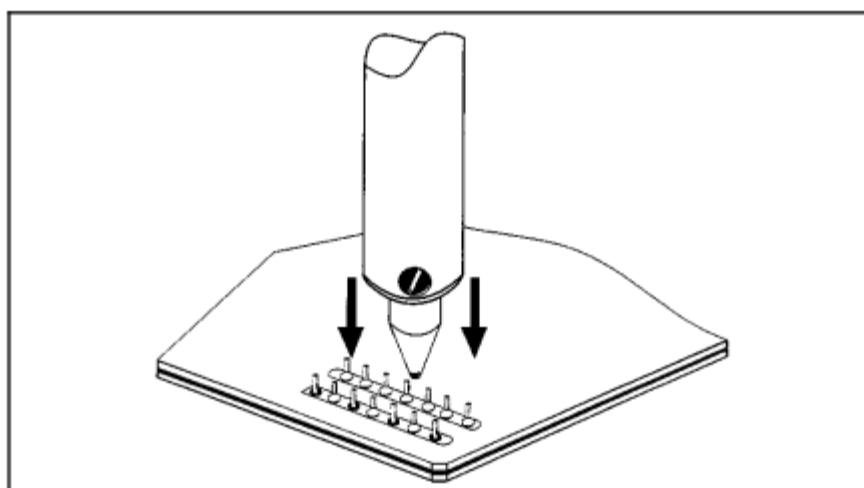

Figure 4 Position Tip
13. Remove battery according to figure 4~figure 8